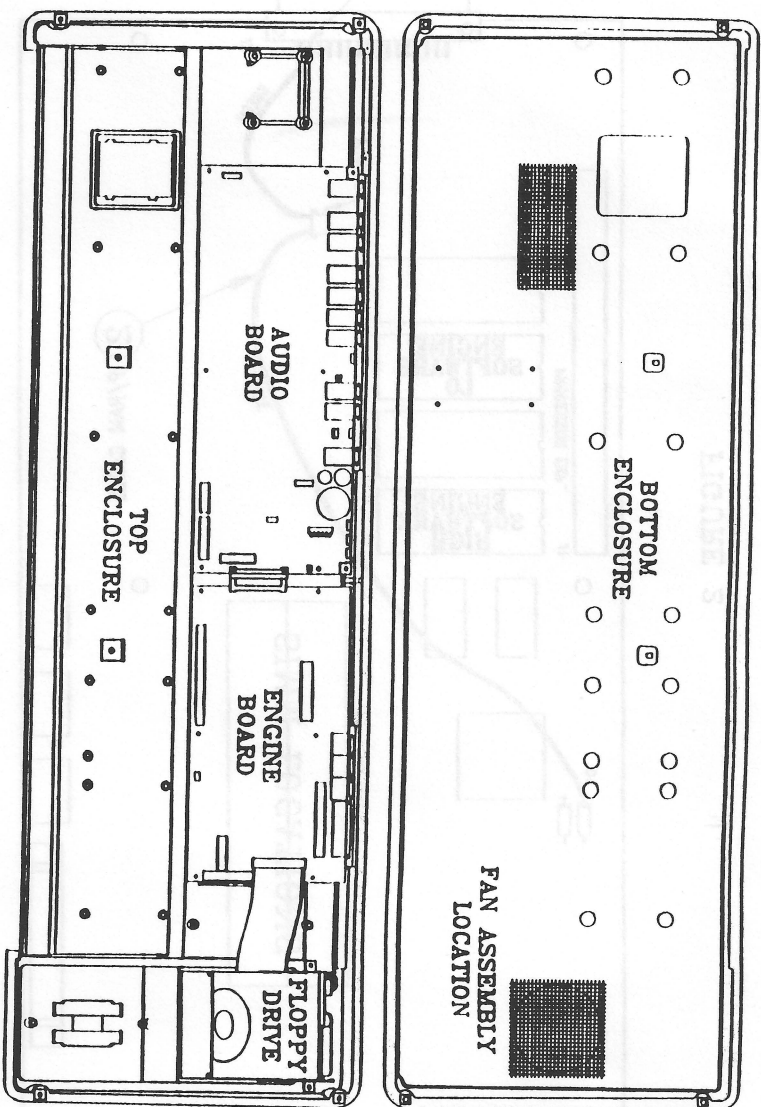
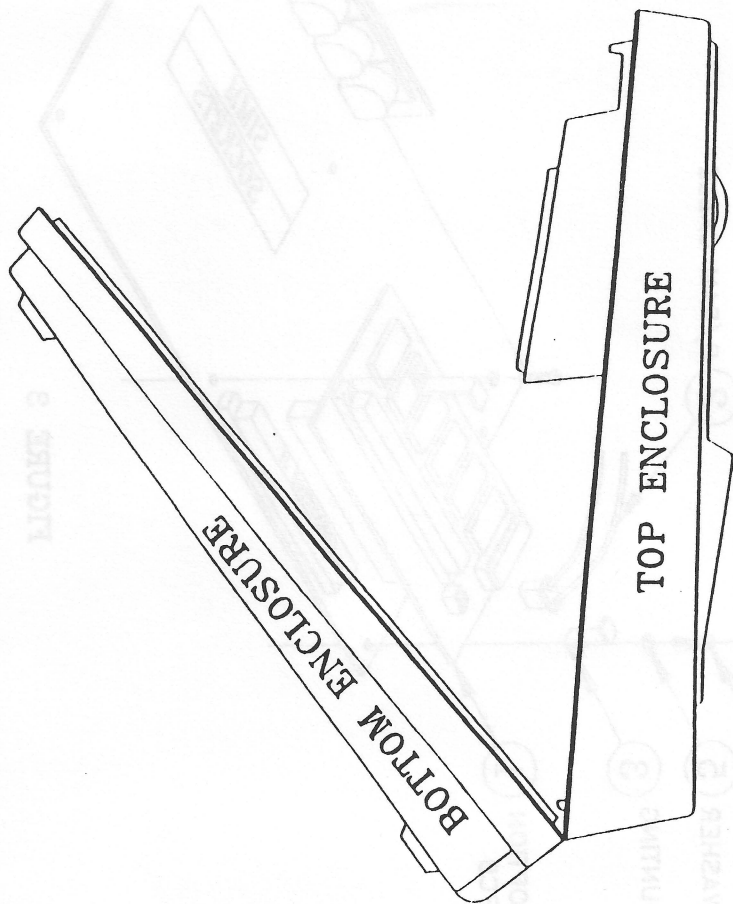

FIGURE 1
FIGURE 4
- 4 Lift the edge of the bottom enclosure that is closest to you. See Figure 1. If the fan kit has already been installed, be sure to disconnect the fan/hard disk drive power cable from the K2000's audio board before removing the bottom enclosure completely. See Figure 4. Be sure that there are no cables connected between the bottom and top enclosures. If there are any ribbon cables to be disconnected, make note of the orientation of the red border of the ribbon cable, so you can reconnect it properly. Set the bottom enclosure aside.
- 14 Lift the bottom enclosure, place its back edge (the edge with the Kurzweil logo) on the back edge of the top enclosure and hold the unit partially open as shown in Figure 4.